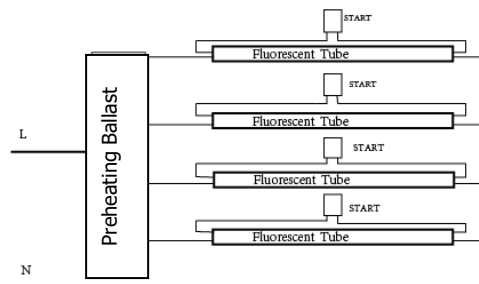
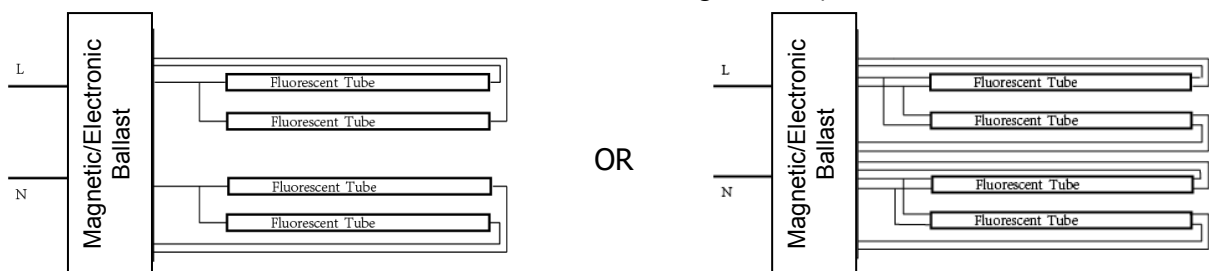

Fig.1 (Use with Preheating Ballast)
Fig. 2 (Use with Magnetic/Electronic Ballast)
STEP 3: Check if the LED tubes rating parameters can be replaced in this luminaire, below is the original wiring drawing, shown as below Fig.1 (Use with Preheating Ballast) or Fig. 2 (Use with Magnetic/Electronic Ballast) :